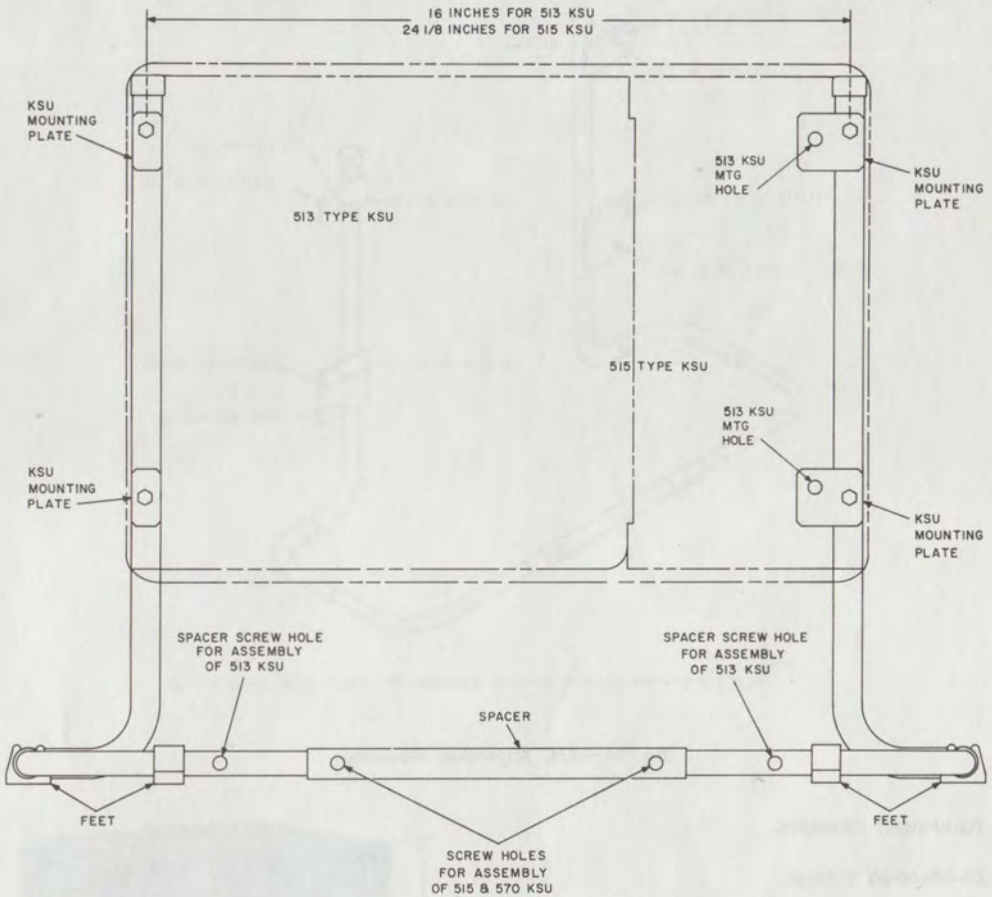

Fig. 10—77B (MD) Apparatus Mounting
3.07 The 77B (MD) apparatus mounting is a floor-type nonanchored metal stand (prefomed steel tubing) adjustable for mounting 513-, 515-, and 570-type (with 2-piece backboard) key service units (KSUs) when wall mounting is not available. The width is determined by how far the base legs are inserted into the spacer (Fig. 10).